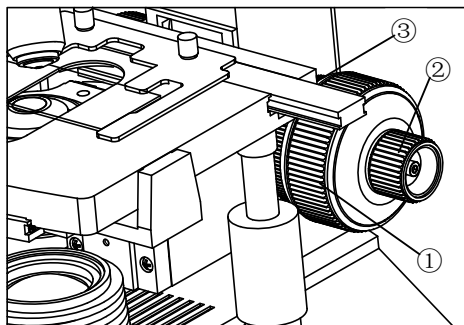

Fig.18
3.3.3 Focusing the specimen (图 18, 19)